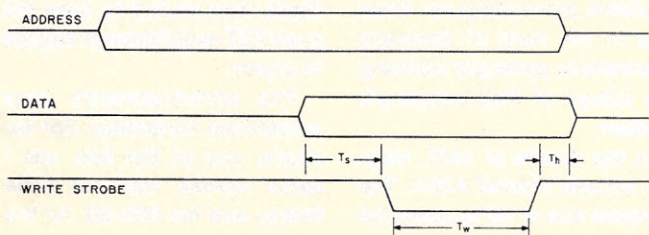

Fig. 1.
Fig. 1 shows the critical parameters that need to be checked: (1) Write strobe width (T_w) must exceed the minimum strobe width required by the CMOS part; (2) data hold time (T_h) must meet CMOS specifications; (3) data setup time (T_s) is usually not a problem, but remember to compute setup time with regard to the rising or falling edge of the strobe, depending upon which edge loads the CMOS part.